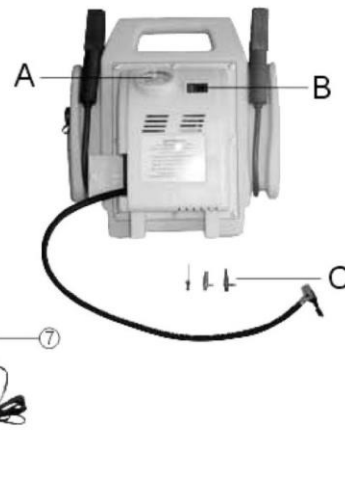

Figure 2. Air compressor
1. For tyre inflation use the universal adapter that is attached permanently to the air hose. Place this adapter (No. C, see figure 2) onto the tyre valve system, press the adapter lever down to lock onto the valve system.
3. Check pressure gauge (No. A, see figure 2), determine the desired pressure.